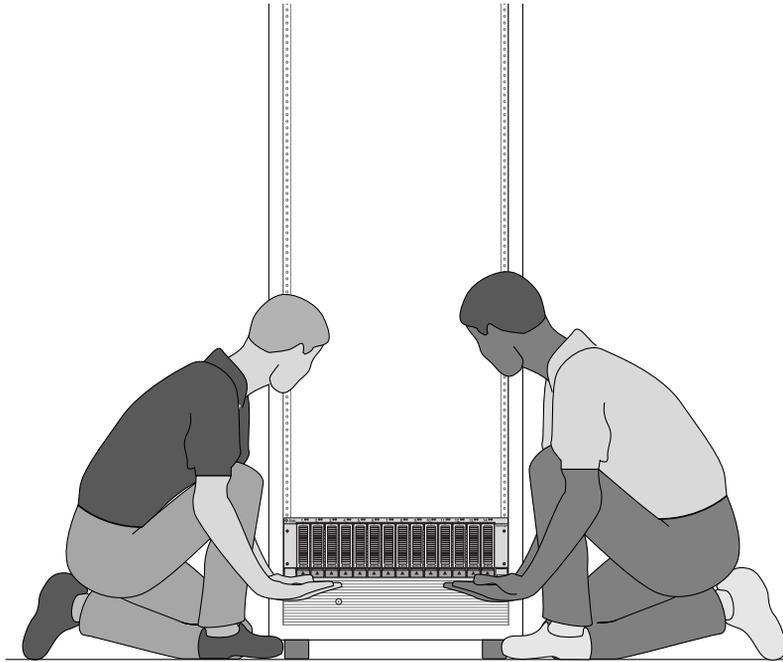

FIGURE 2-14 Positioning the Array Module in the Cabinet
- Using two people, one at each side of the array, carefully lift and rest the array on the bottom ledge of the left and right rails (FIGURE 2-14).